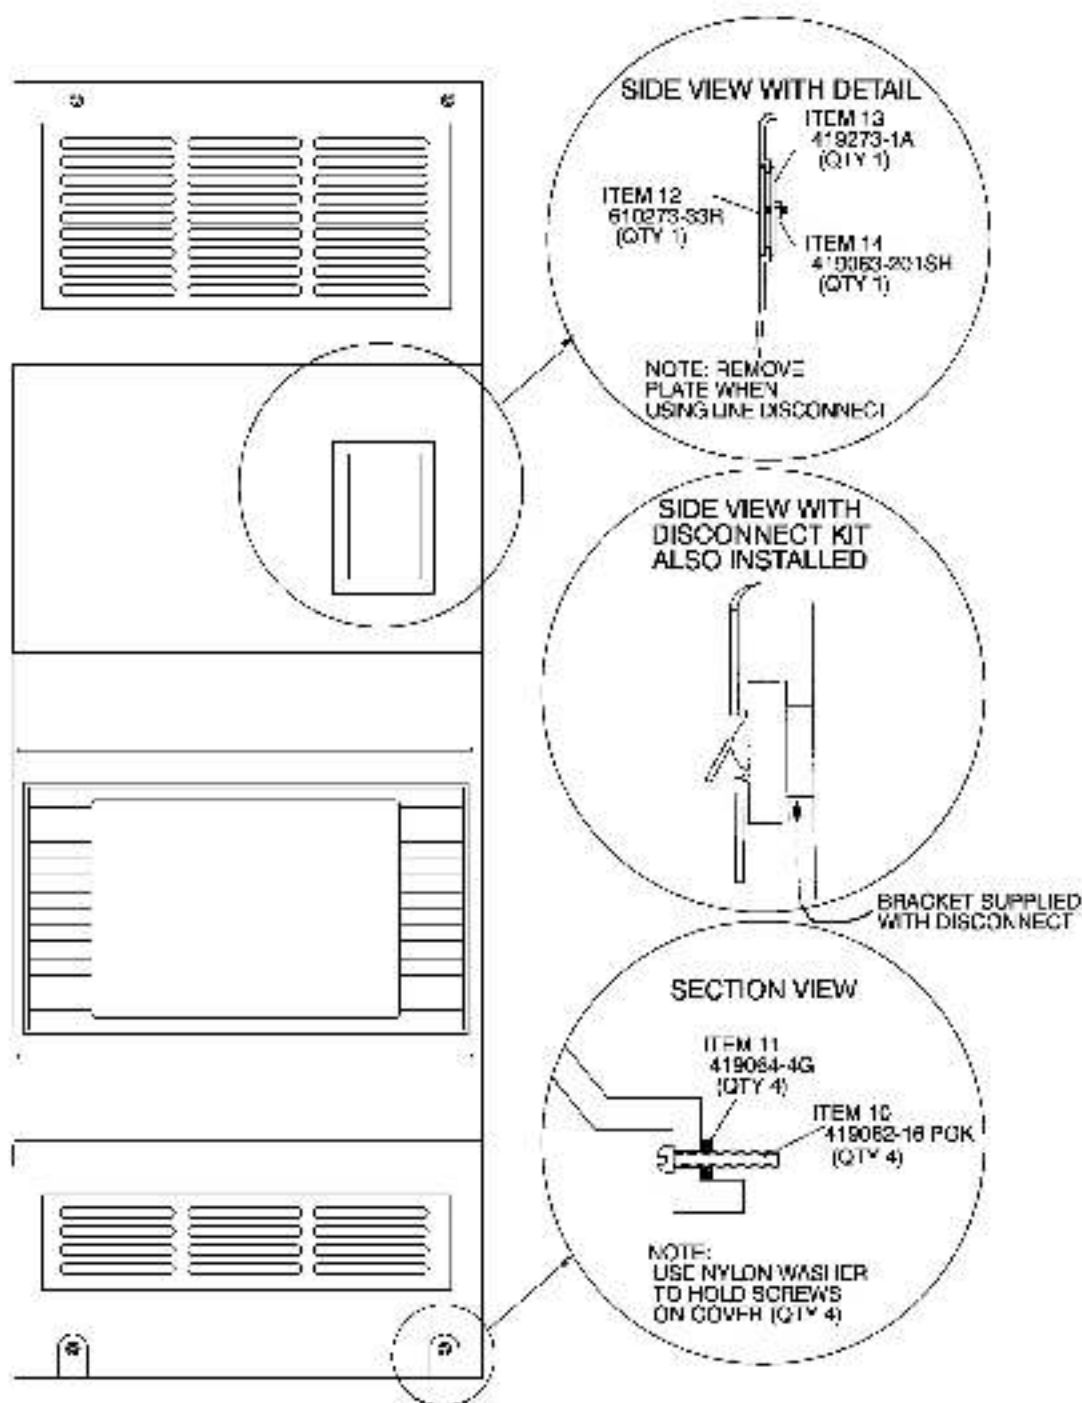

Figure 4 - Assembling the Front of the NEMA 1 Cover
- Step 12. Insert the four (4) M4 x 16 pan head machine screws [Item 10] into the NEMA 1 cover [Item 7]. Use the four nylon washers [Item 11] provided in the kit to hold the screws in place. Refer to figure 4.
- Step 13. **If a line disconnect kit is installed on the drive, do the following.** Otherwise, proceed to step 14. Refer to figure 4. Remove the M5 hex nut [Item 14], the cover plate [Item 12], and the cover back plate [Item 13] from the NEMA 1 cover. Discard these items. The bracket for the disconnect mount is supplied with the disconnect kit and must be used. See the instruction manual for your disconnect kit for more information.